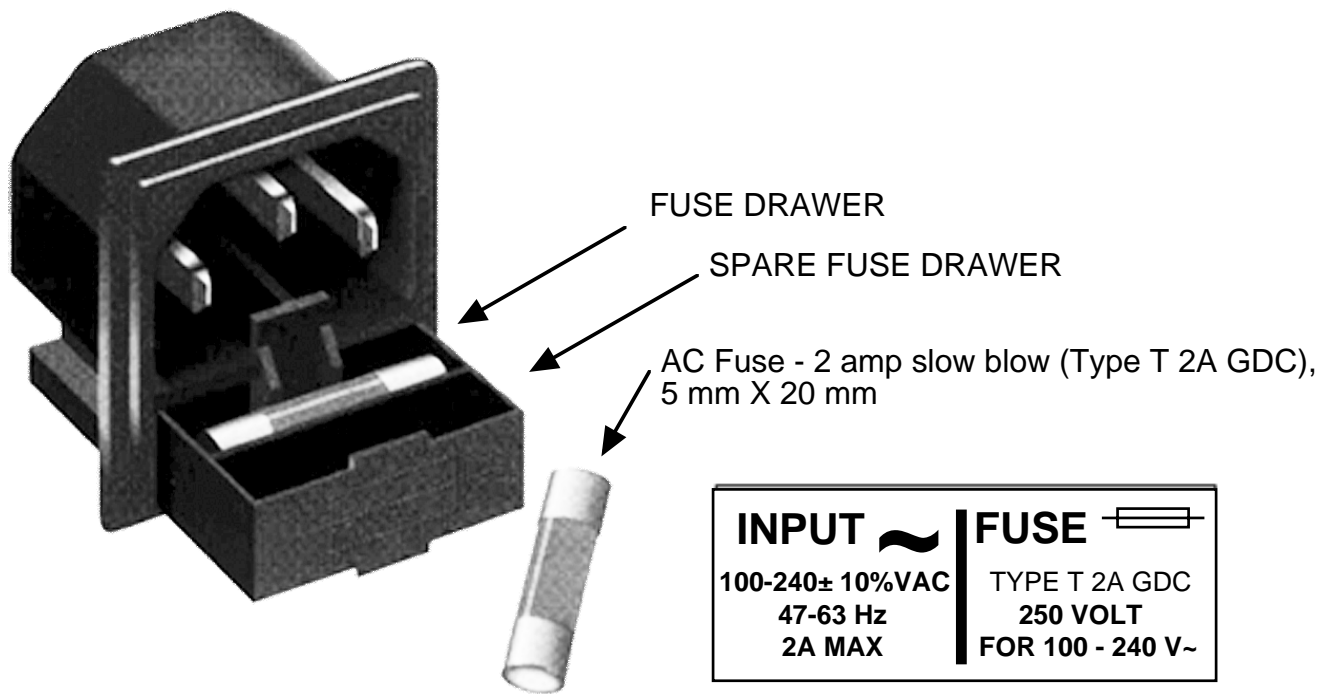

Figure 2.3 Fuse Location and Spare Fuse
- 8.) **AC Fuse** - The fuse is a 5 mm X 20 mm, 2 amp slow blow (Type T) and is inserted in the far slot in the drawer below the AC input as shown in Figure 2.3. There is a spare fuse in the near slot. If a fuse continues to open, the power supply is most likely defective.